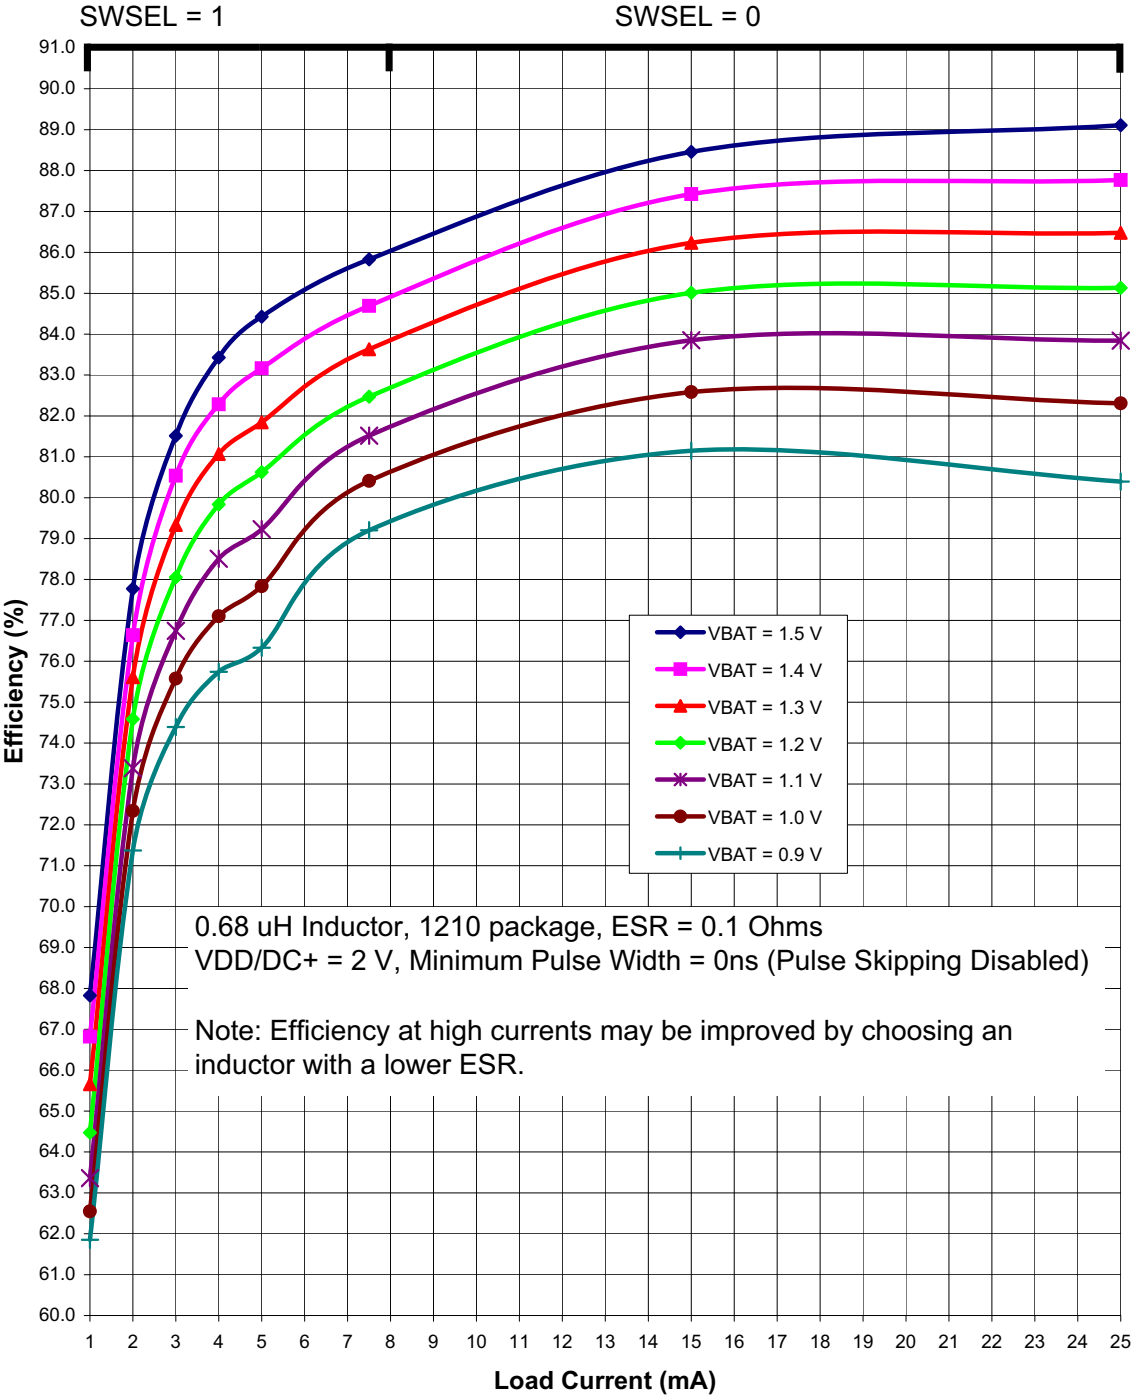
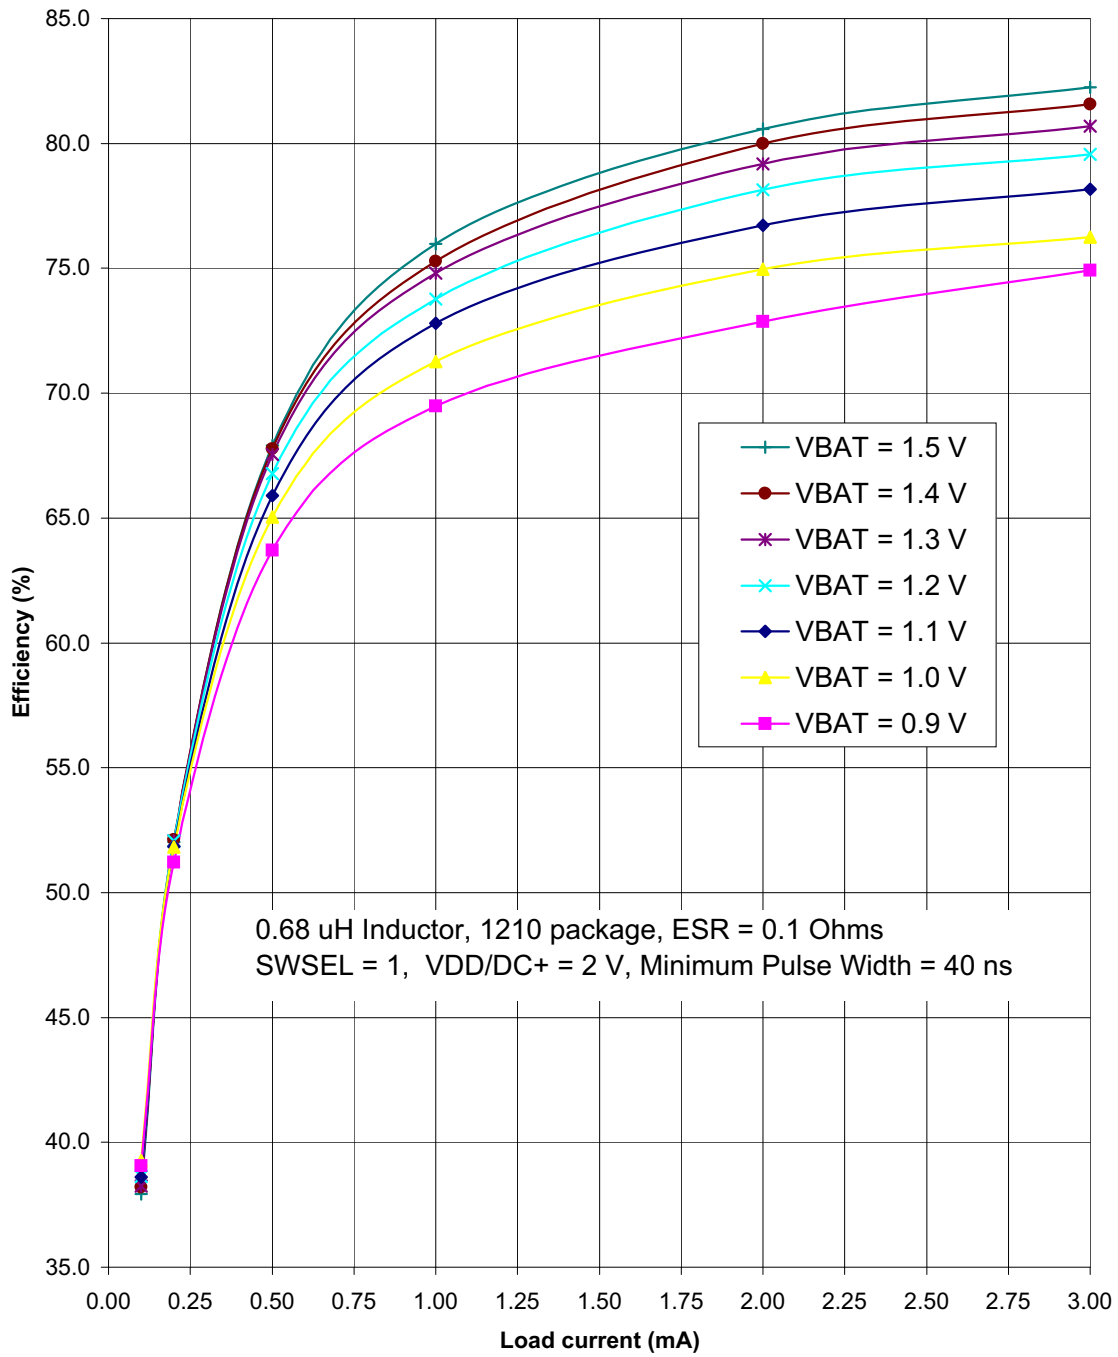

Figure 4.3. Typical DC-DC Converter Efficiency (High Current, VDD/DC+ = 2 V
Figure 4.5. Typical DC-DC Converter Efficiency (Low Current, VDD/DC+ = 2 V)
| <p>Notes:</p> <ol style="list-style-type: none"> Based on device characterization data; Not production tested. SYSCLK must be at least 32 kHz to enable debugging. Digital Supply Current depends upon the particular code being executed. The values in this table are obtained with the CPU executing an "sjmp \$" loop, which is the compiled form of a while(1) loop in C. One iteration requires 3 CPU clock cycles, and the flash memory is read on each cycle. The supply current will vary slightly based on the physical location of the sjmp instruction and the number of flash address lines that toggle as a result. In the worst case, current can increase by up to 30% if the sjmp loop straddles a 128-byte flash address boundary (e.g., 0x007F to 0x0080). Real-world code with larger loops and longer linear sequences will have few transitions across the 128-byte address boundaries. Includes oscillator and regulator supply current. IDD can be estimated for frequencies ≤ 10 MHz by simply multiplying the frequency of interest by the frequency sensitivity number for that range, then adding an offset of 90 μA. When using these numbers to estimate I_{DD} for >10 MHz, the estimate should be the current at 25 MHz minus the difference in current indicated by the frequency sensitivity number. For example: $V_{DD} = 3.0$ V; $F = 20$ MHz, $I_{DD} = 4.1$ mA – $(25 \text{ MHz} - 20 \text{ MHz}) \times 0.120 \text{ mA/MHz} = 3.5$ mA. The Supply Voltage is the voltage at the VDD_MCU pin, typically 1.8 to 3.6 V (default = 1.9 V). Idle IDD can be estimated by taking the current at 25 MHz minus the difference in current indicated by the frequency sensitivity number. For example: $V_{DD} = 3.0$ V; $F = 5$ MHz, Idle $I_{DD} = 2.5$ mA – $(25 \text{ MHz} - 5 \text{ MHz}) \times 0.095 \text{ mA/MHz} = 0.6$ mA. The supply current specifications in Table 4.2 are for two cell mode. The VBAT current in one-cell mode can be estimated using the following equation: $\text{VBAT Current (one-cell mode)} = \frac{\text{Supply Voltage} \times \text{Supply Current (two-cell mode)}}{\text{DC-DC Converter Efficiency} \times \text{VBAT Voltage}}$ <p>The VBAT Voltage is the voltage at the VBAT pin, typically 0.9 to 1.8 V. The Supply Current (two-cell mode) is the data sheet specification for supply current. The Supply Voltage is the voltage at the VDD/DC+ pin, typically 1.8 to 3.3 V (default = 1.9 V). The DC-DC Converter Efficiency can be estimated using Figure 4.3–Figure 4.5.</p> The radio peripheral is placed in Shutdown mode. | | | | | |